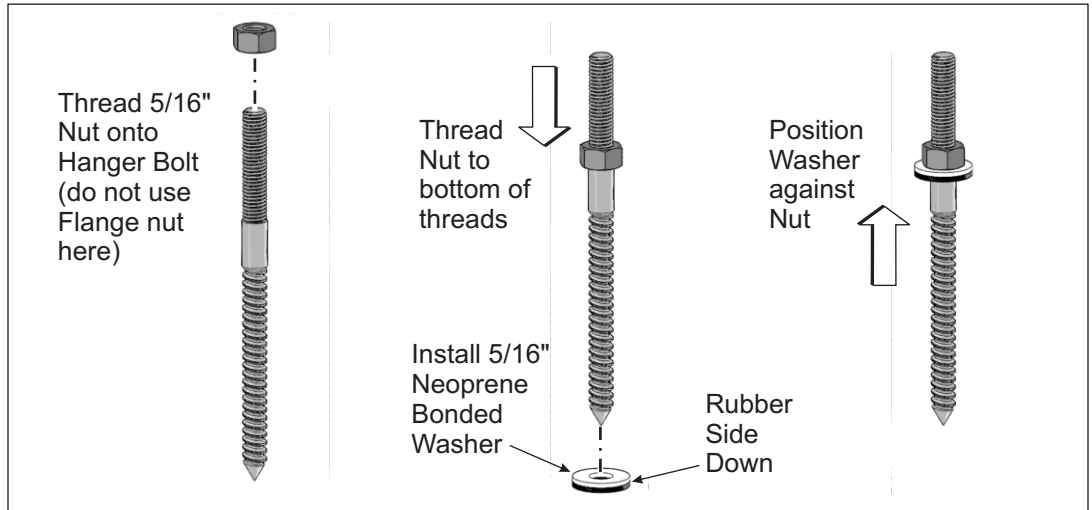

Figure 2-1: Assembling the Hanger Bolt
- A. Thread one 5/16" hex nut onto the machine threads of hanger bolt. Thread the nut down to the bottom of the machine threads. (See Figure 2-1)